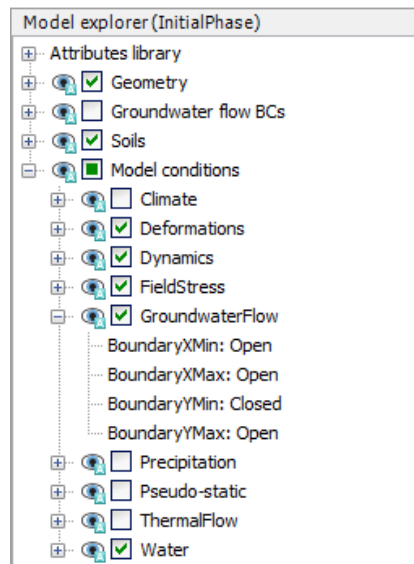

Figure 12-5: The groundwater flow boundary conditions for the initial phase
- 5 In the **Model conditions** expand the **GroundwaterFlow** subtree. The default boundary conditions are relevant for the initial phase. Confirm that only the bottom boundary is closed. The expanded groundwater flow boundary conditions is shown in Figure 12-5 \(p. 198\).